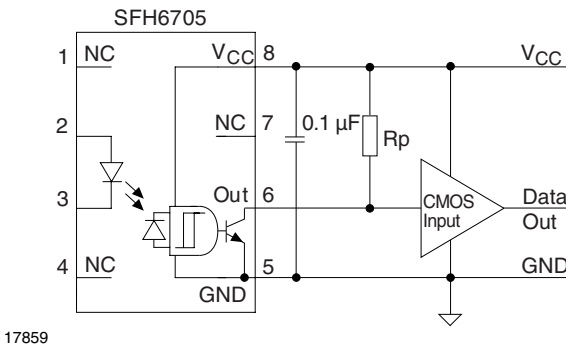

Fig. 11 - Interfacing SFH6705 (Open Collector Output) to CMOS Logic
To ensure reliable logic switching, a pull-up resistor between the output and V_{CC} is recommended (see Figures 11 and 12). For the HCT logic family, this pull-up resistor may be omitted, due to the matching switching level of the coupler's output and the HCT input.
- Using SFH6705 (open collector) and a pull-up resistor (see figure 11)
Using the open collector device, as in figure 11, requires an external pull-up resistor R_P. To determine the correct value of this pull-up resistor, use following equations:
Typical values for R_P by connecting to CMOS logic (according to figures 11 and 12).